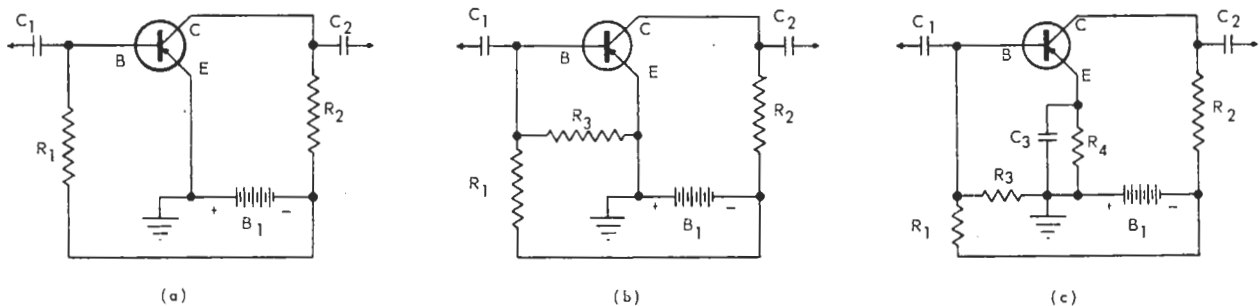

FIG. 2-7
Basic circuits for adding D.C. Stabilization to common-emitter amplifiers are illustrated in Figs. 2-7(b) and 2-7(c). For comparison purposes, an "unstabilized" circuit is shown in Fig. 2-7(a).
In order to see how temperature can affect circuit operation, let us refer first to Fig. 2-7(a). Here, we have a simple common-emitter amplifier with a resistive
The effect of the base-emitter resistance on bias current may be reduced by shunting these electrodes with a fixed resistor, as shown in Fig. 2-7(b). R_3 is connected between the base and emitter electrodes of the transistor. With this arrangement, a moderate degree of stabilization is obtained and base bias current is determined by a resistive voltage divider (R_1 - R_3) instead of by a series resistor alone.
Even better D.C. Stabilization may be obtained by adding a by-passed emitter resistor (R_4), as shown in Fig. 2-7(c). With this arrangement, a steady increase in emitter-collector current will develop a voltage (across R_4) with a polarity which tends to oppose, and to reduce, the base bias current, thus restoring the emitter-collector current to near its "normal" value.
In practical versions of all three circuits (Fig. 2-7), R_2 may have values of 4,700 to 25,000 ohms, C_1 and C_2 may have values of 1 to 10 Mfd., and B_1 may supply from 1.5 to 12 volts. In the "unstabilized" circuit given in Fig. 2-7(a), R_1 may have a value ranging from 150K to 470K, depending on the voltage of B_1 and the transistor used. With the partially stabilized circuit of Fig. 2-7(b), R_1 may have values from 10K to 100K, R_3 values from 500 to 2500 ohms. Finally, in the circuit given in Fig. 2-7(c), R_1 may have values from 10K to 47K, R_3 values from 100 to 1,000 ohms, and R_4 values from 47 to 470 ohms, with C_3 values from 6 to 80 Mfd., depending on the size of R_4 and the desired low frequency response of the circuit. The smaller R_4 , the larger the value of C_3 . These values are for audio circuits. Re-
D.C. Stabilization is more important in commercial and industrial applications than in experimental circuits and gadgets. Because of this, the average experimenter may prefer to use the simple biasing system illustrated in Fig. 2-7(a) for most of his work, even though it does not provide full circuit stabilization.